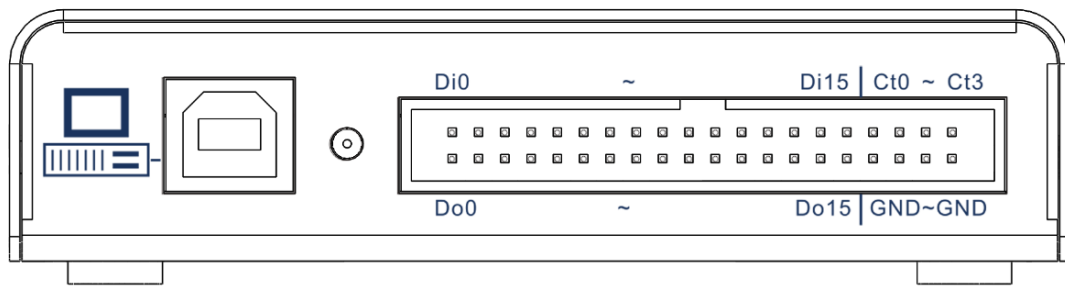

Figure 6. Pin Distribution and Corresponding Signals of IDC Connector
- 9) The system starts the installation, which will take about 30 seconds. Upon the driver installation is completed, you can see that the exclamation point in the **Device Manager** disappears, as shown in Figure 6.